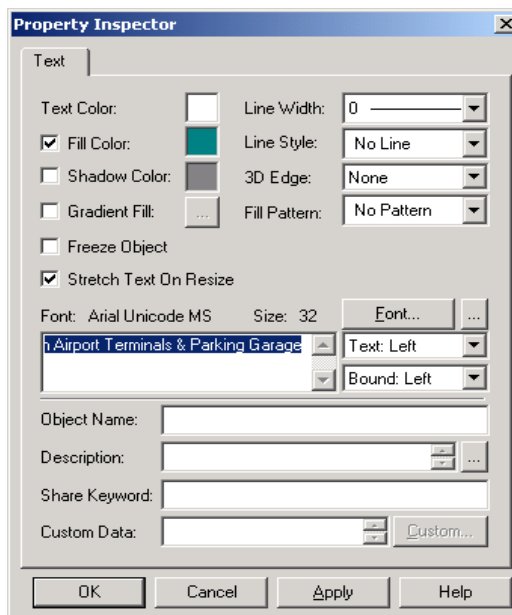

Figure 5.11
3. Double click the text you just created to open the property inspector of that text field, shown in **Figure 5.11**. Click the **Font...** button and select 32 as the size of the text, then click **Ok**. Now **Apply** these settings and click **Ok**.